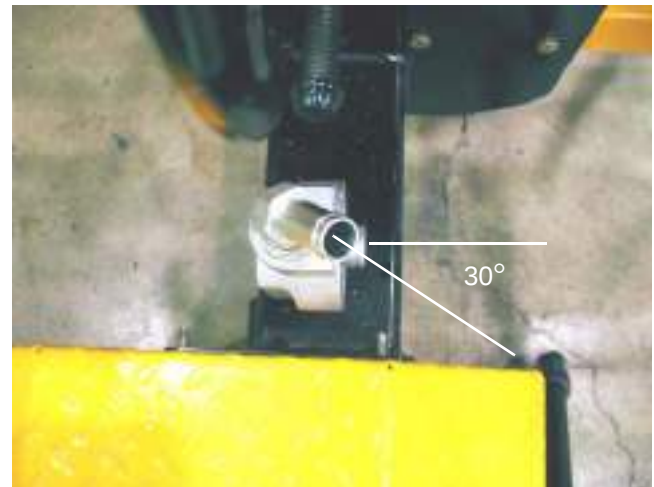

Figure 7.16
4. Align the nipple on the fitting so that it is pointing to the front of the splitter at a 30° from the beam. See Figure 7.16.